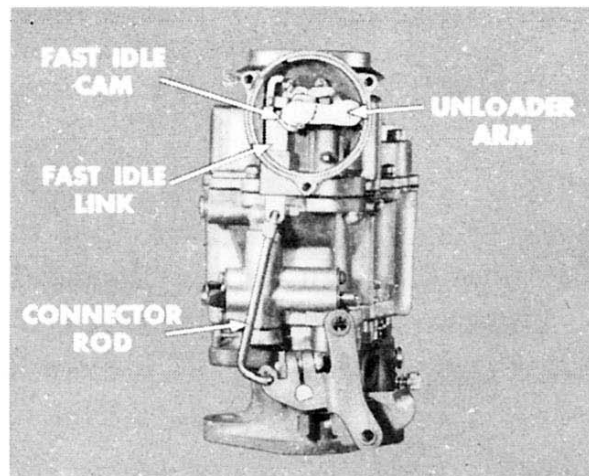

FIG. 12
**FAST IDLE OPERATION:** Provision is made to permit the engine to operate at a fast idle speed until the choke valve is fully open. A fast idle cam (shown in Figure 12) is connected to the choke shaft by a spring. This permits the choke valve to open to prevent over-choking, while at the same time the pressure of the throttle linkage return spring holds a fast idle link against the high side of the fast idle cam to increase the throttle opening and thereby increase engine idle speed.
Figure 12 shows the complete carburetor. You'll notice that the throttle shaft is linked to the choke mechanism through a connector rod and a fast idle link. When the choke valve and the throttle valve are closed, the fast idle link presses against a boss in the unloader arm. This boss rests against the high part of the fast idle cam, preventing the throttle valve from closing completely. As the choke valve gradually opens, the fast idle cam rotates to gradually bring the low part of the cam against the boss on the unloader arm, permitting the throttle to gradually close to the closed position as controlled by the idle speed adjusting screw.